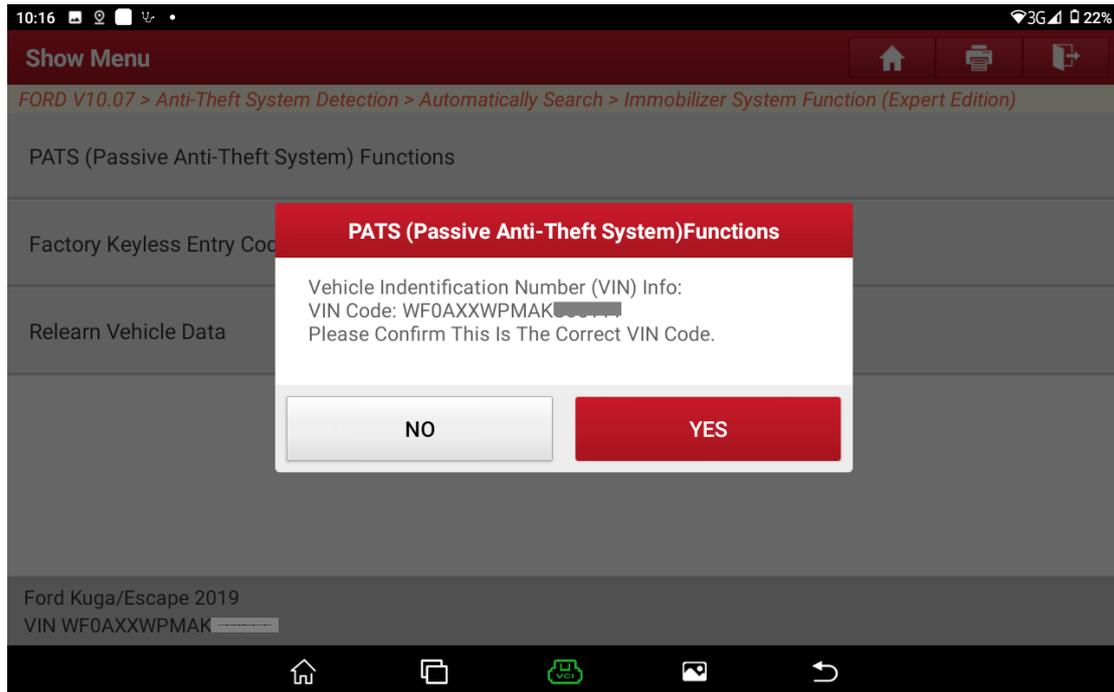

Figure 9
7. Confirm whether the VIN is correct. Choose [No] to exit the function or choose [Yes] to access the next step. See Figure 9.